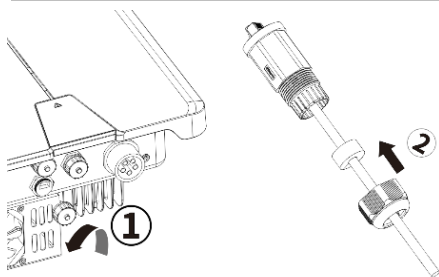

Fig. 34. Configure network connector
1. Unscrew the cover cap (Pos. 1 in Fig. 34) of the communication connection and route 8-pin network cable through the enclosed thread sleeve, forcing nut and seal (Pos. 2).